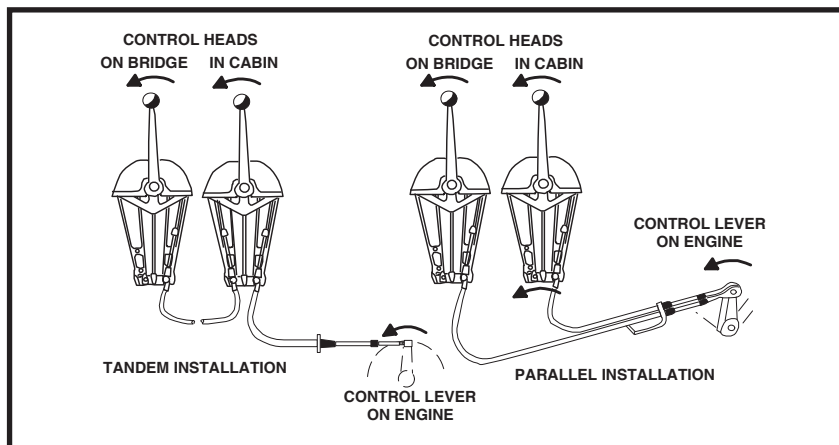

Figure 6.
STEP 1. Typical dual station applications are shown in Figure 6.